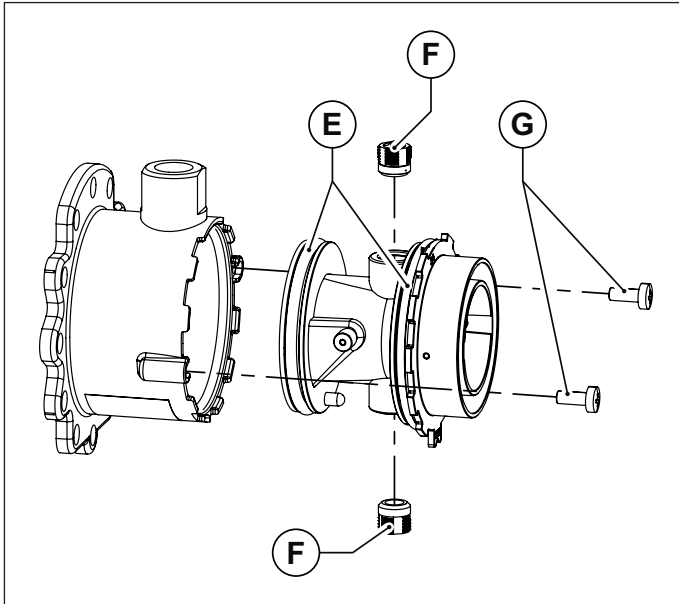
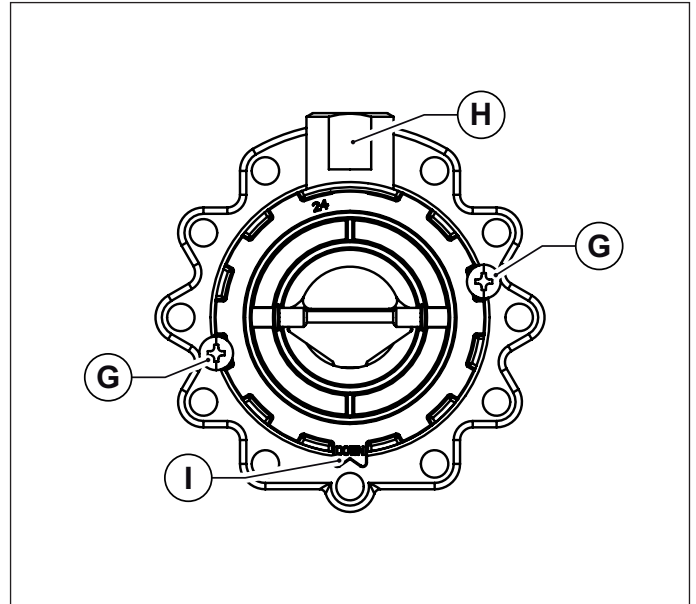

Fig. 38 Mixer plastic body
Fig. 39 Assembling direction
- Loosen the two retaining screws, and slide out mixer plastic body (see Fig. 38 Mixer plastic body).
- Using a 6 mm Allen wrench, loosen the two mixer nozzles (see Fig. 38 Mixer plastic body).
- To refit the plastic body (Venturi), insert it inside mixer and secure it in place with the retaining screws. Take care not to damage the O-rings assembled on plastic body ends (see Fig. 38 Mixer plastic body) and to respect the assembling direction (see Fig. 39 Assembling direction).
- Refit the reassembled mixer onto the fan with the socket head screws, making sure to insert the O-ring between mixer and fan (see Fig. 38 Mixer plastic body).